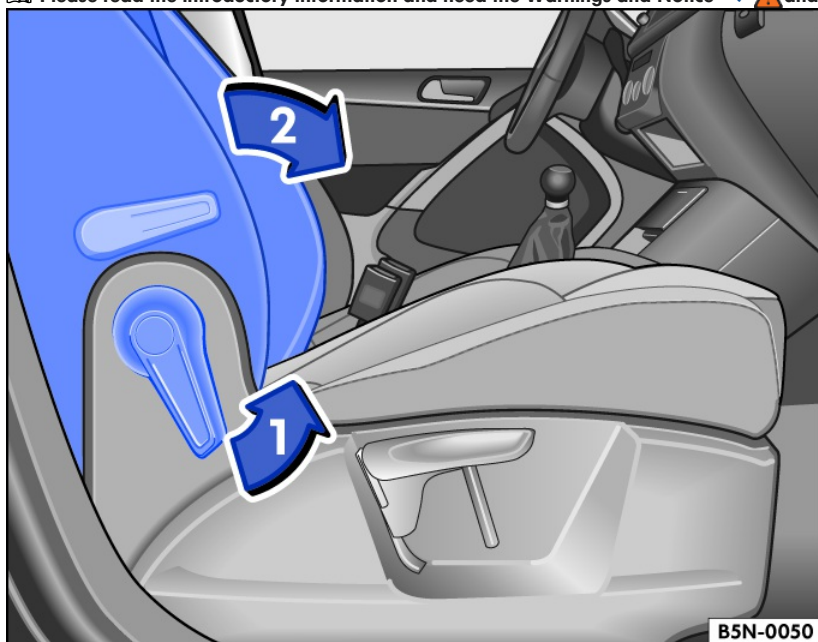

Fig. 76 Front passenger seat: Fold backrest forwards.
- Unlock the front passenger backrest in the direction of the arrows *fig. 76*.
- Fold the front passenger backrest forwards in the direction of the arrows *fig. 76* into the horizontal position. The front passenger backrest must engage securely in the folded down position.
- To unfold the front passenger backrest unlock it again *fig. 76*.